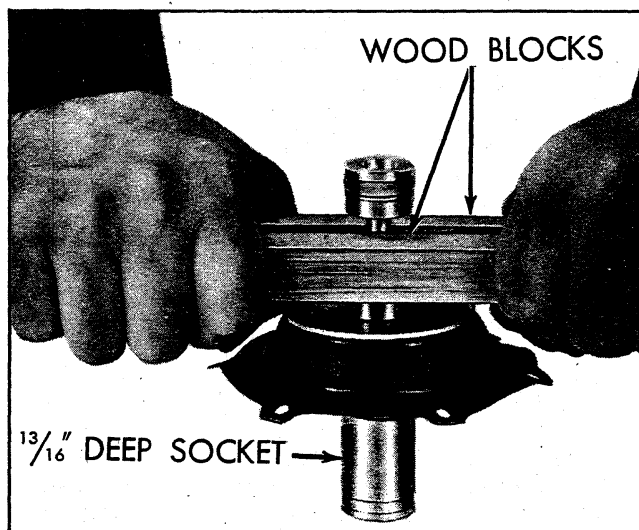

Fig. 18 - Installing Diaphragm Retainer
5. Use a 13/16 inch deep socket as a pilot for the new diaphragm retainer. Press against the piston shoulder on first stage side, (fig. 18) to position diaphragm retainer. The wood blocks used in the illustration are each 3/4" x 3/4" x 12".